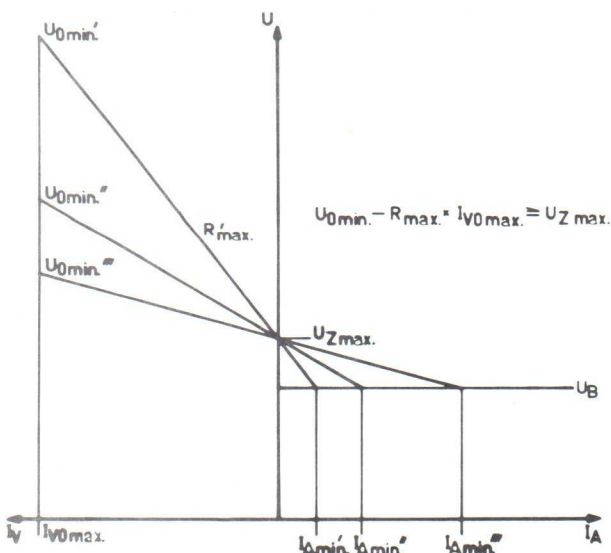

Fig. 13: Firing condition.
Before the stabilizing action can take place, the tube must be fired. The breakdown voltage (firing voltage) U_Z of a tube is always higher than the maintaining voltage. If no load current is present when the supply voltage is switched on, the only condition is: $U_{0min} > U_Z$. If, however, a load current is initially present, the value of which shall be I_{V0max} (at $U_1 = U_Z$), the circuit must be designed in such a manner that the voltage across the tube exceeds U_Z . Figure 13 shows that the required minimum supply voltage U_{0min} , that secures correct firing of the tube, will be higher with
c) The tube must fire when the supply voltage is switched on (firing condition, figure 13).